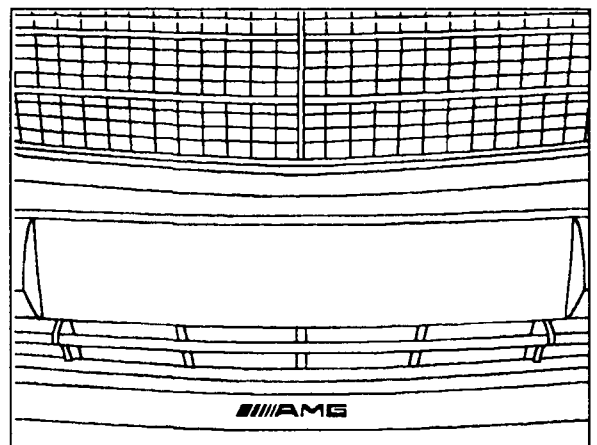

Figure 6
20. Warm AMG logo and mounting surface to 40 °C using heat gun. Apply logo according to Figure 6.